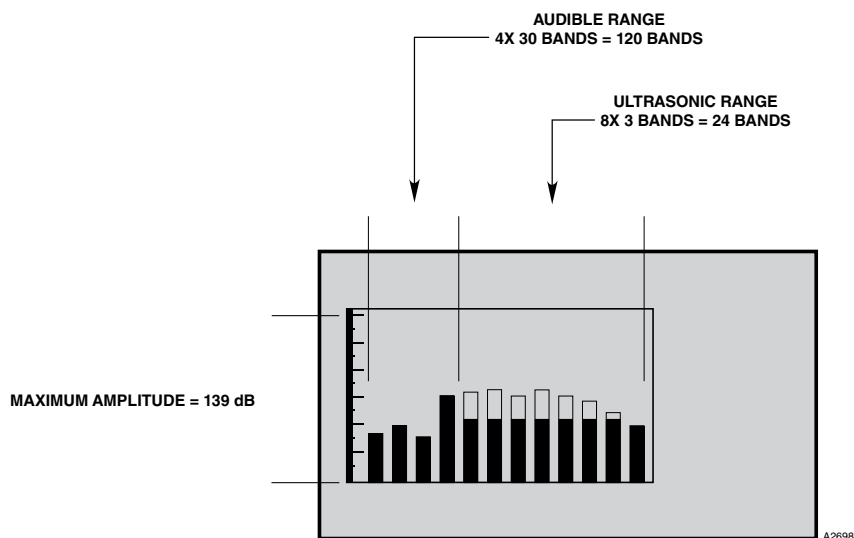

Figure 6-2—UD10 Display Uses 12 Bands to Represent the FlexSonic Acoustic Detector's 144 Bands
- The first 4 bands summarize the audible range (20 Hz - 20 kHz). Each of the first 4 bands represents an aggregate of 30 bands from the spectrum, for a total of 120 bands. See Figure 6-2.
The alarm threshold is summarized in 12 bands using the method described above. The portion of the band that exceeds the alarm threshold is inverted (displayed in white) as shown in Figure 6-2.